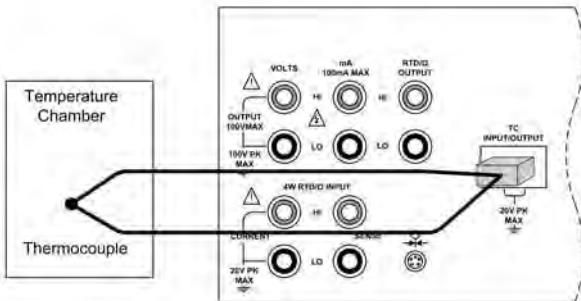

Figure 25 - Thermocouple Test Application
3. Connect the thermocouple as shown in figure 25.